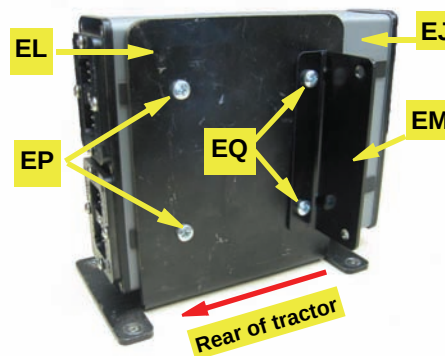

Figure 1c: Installed ECU and controller bracket (Viewed from driver's seat side)
- c. Using the shorter hardware **EP** through the rear-most holes in bracket **EL**, attach **EJ** (cable connectors rearward) loosely to the inside face of bracket **EL** (Figure 1c - viewed from driver's seat side).
- d. Using the longer hardware **EQ** through the narrow side of bracket **EM** (wider side forward) and the remaining holes in bracket **EL**, secure **EJ** and **EM** to **EL** (Figure 1c). Tighten **EP** and **EQ**.